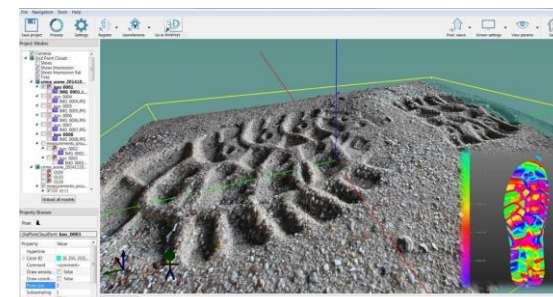

Fig. 8 Footwear impression with colour map and depth
- Recording the 3D-profile of impressions in a digital point cloud in  $\mu\text{m}$  – accuracy (Fig. 8)